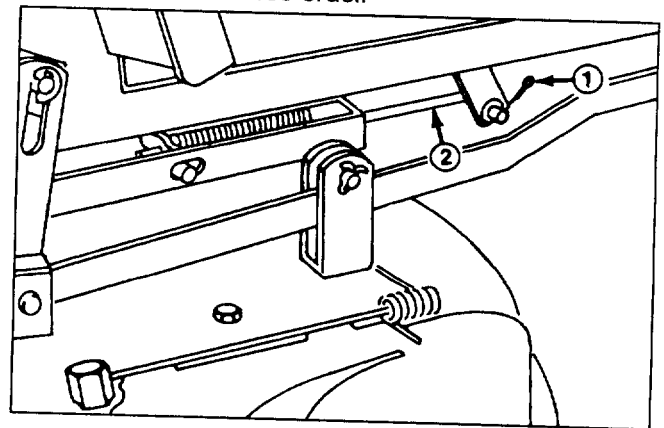

Figure 27
3. Remove cotter pin from adjustment rod and pull from pivot tube arm (Fig. 27).
2. Remove cotter pin from adjustment rod (Fig. 27).